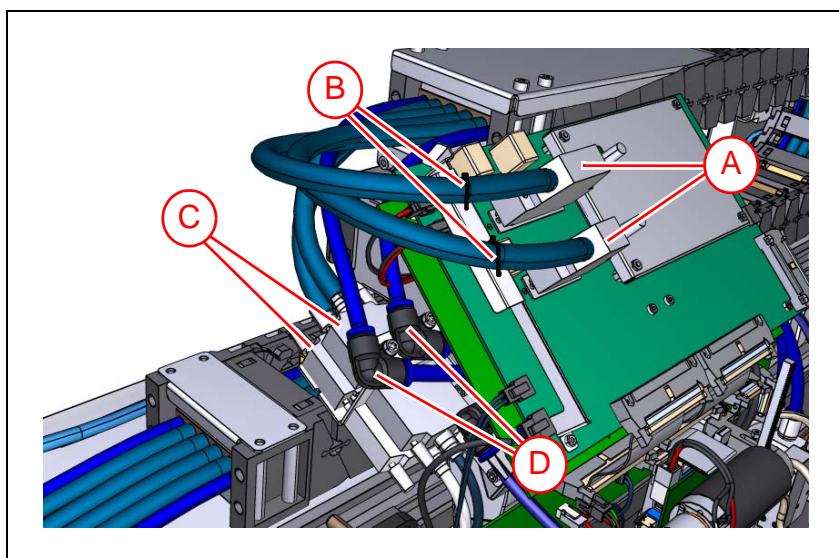

Figure 5-37. Attach X-wagon connectors.
9. Attach and secure the two cable connectors ('A' in Figure 5-37) located on the XWZB (X Wagon Z Board).
10. Use cable ties to fixate the cables to the bracket ('B' in Figure 5-37) on the XWZB (X Wagon Z Board).
11. Attach and secure the two cable connectors ('C' in Figure 5-37) attached to the *Fan holder unit* on the X wagon.
12. On the X wagon, connect the vacuum and pressure hoses ('D' in Figure 5-37).